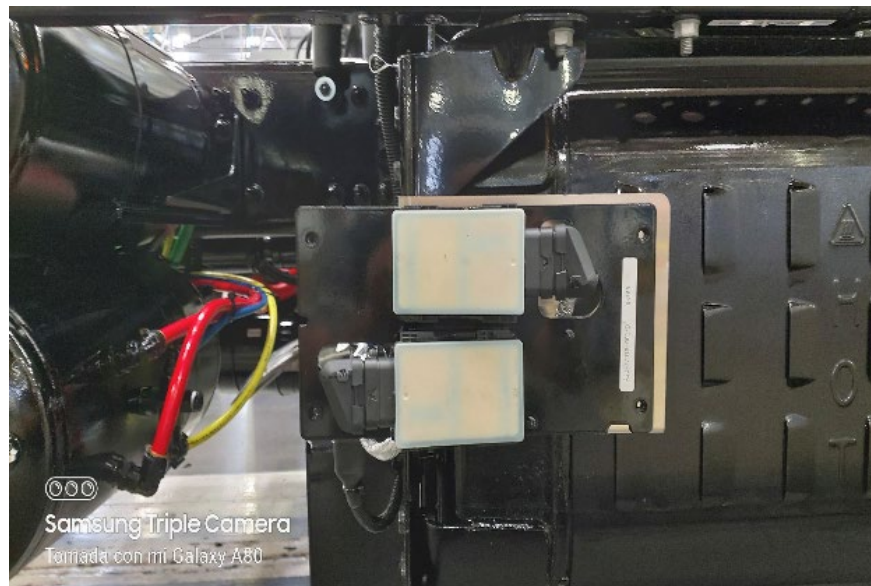

Fig. 3, SRRR Modules with Fairing Removed
4. Remove the fairing to gain access to wiring routing. For instructions, see section 31.03, subject 100 Forward Fairing Removal and Installation in the *New Cascadia Workshop Manual*. See **Fig. 3** for an image of the SRRR modules with the fairing removed.